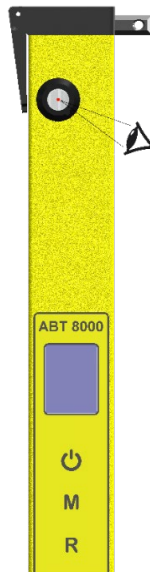

Figure 5 – 90° View-finder
3. Look through the view finder on the vertical beam to view a red LED guide dot (shown in Figure 5). This will assist the user in aligning the measurement laser with the OHL.